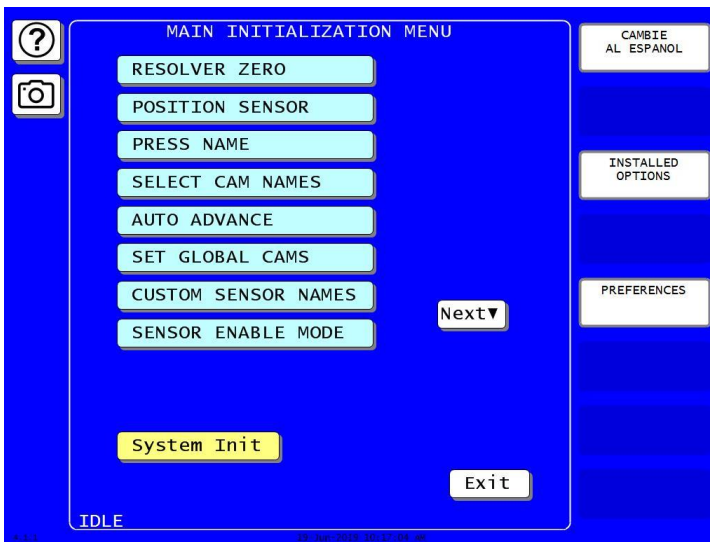

Figure 7. Main Initialization Menu
3. Select NEXT on the side of the Main Initialization Menu (*see Figure 7*).